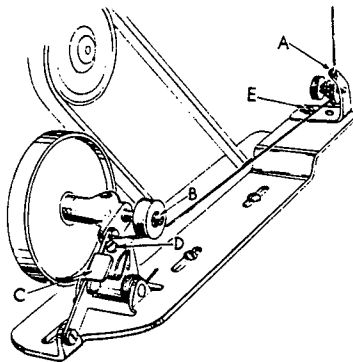

Fig. 7
Thread the bobbin winder by leading the thread from the supply down through the eyelet (A, Fig. 7), down between the tension discs, and under the tension post. Press an empty bobbin on the winder shaft (B) up to the stop, wind the end of thread around the bobbin a few turns in a clockwise direction, and press downwardly on hand lever (C) until pulley is moved into contact with machine belt, and is locked in that position. When the machine is operated, the bobbin will be rotated and filled until the thread engages the automatic throw-out member, which disengages the pulley. The extent to which the bobbin is filled can be varied by regulating the screw (D).